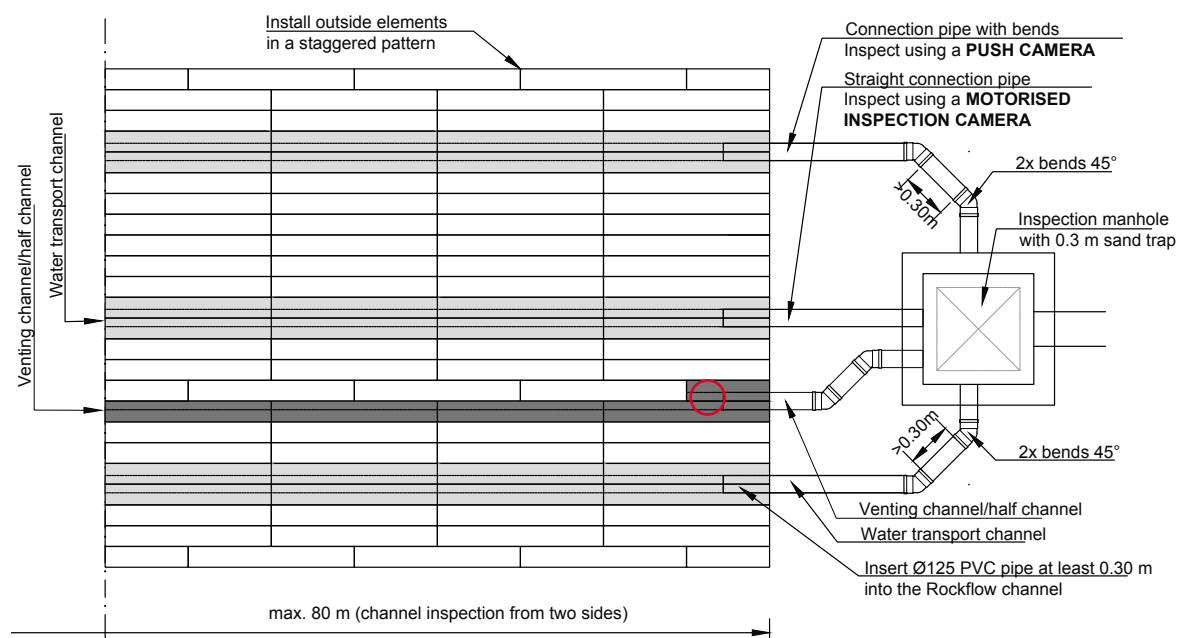

Figure 21: Design with inspection in mind
As indicated in Figure 21, it is desirable that the elements are evenly staggered (V) during installation. This creates a more stable construction. At a minimum, this staggered construction is desirable on the external edges of the Rockflow package and for the venting element. Since the venting element only has half a channel, it is not easy to connect a circular pipe to it. However, it is possible to install a half element (O) that also has a half channel. This makes it easier to implement the connection between the stone wool and a pipe. Moreover, it also creates the required staggered effect.